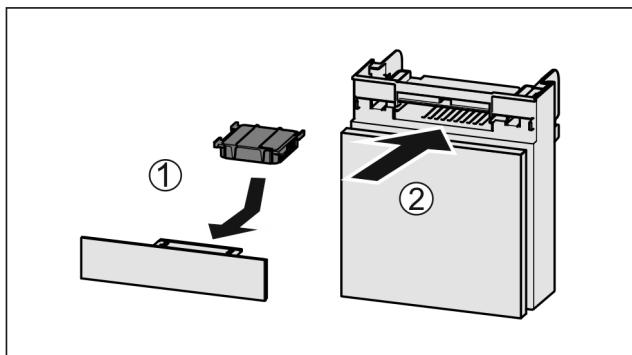

Fig. 116
- ▶ Insert the carbon filter as shown in the diagram Fig. 116 (1).
- ▶ Push the compartment in Fig. 116 (2).